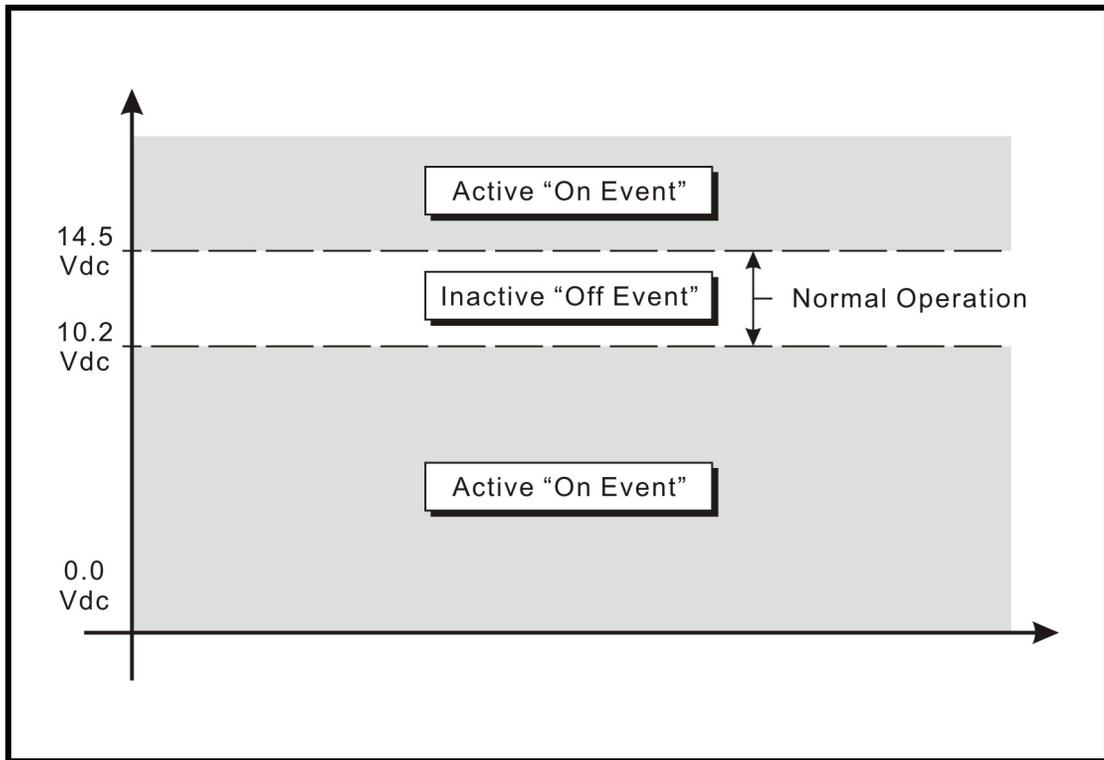

Figure 4 - Analog Input Operating Regions vs. Limit Values
Figure 4 on page 32 illustrates the relationship of the Low and High Limit Values to the Analog Input state. Each region defines the type of Event Record that is created by transitions of the input. The figure depicts an Analog Input configured to monitor a typical 12 Vdc battery source. The figure indicates that the unacceptable region includes all voltages less than 10.2 Vdc and all voltages greater than 14.5 Vdc. The unacceptable region always consists of two portions separated by the acceptable region. If the input is within the range extending from 10.2 to 14.5 Vdc the battery voltage is considered to be acceptable.
On: The Digital Input voltage is in the range from 9 to 36 Vdc. The Analog Input level is outside the acceptable range as defined by the region between the Limit Values (refer to Figure 4 on page 32). The Virtual Input evaluates to a true logic state. The Timer Input has reported a timed interval that is either too fast or too slow as compared to its assigned Low and High Limit Values, respectively (refer to the section entitled "Timer Inputs (W)" on page 32).